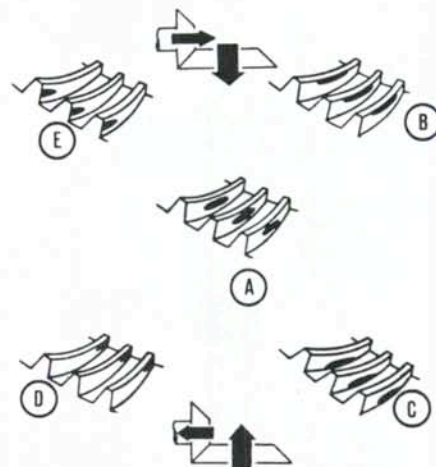

Fig. 225—Refer to text when setting ring gear and pinion gear mesh position.
141. BEVEL GEAR MESH POSITION. As a final assembly check, bevel gear mesh position can be checked as follows: Coat ring gear teeth with Prussian Blue, then turn pinion shaft while applying light resistance to ring gear. Refer to Fig. 225. Desired mesh position is shown at (A).
146. BEVEL GEAR MESH POSITION. As a final assembly check, bevel gear tooth contact pattern can be checked as follows: Apply Prussian Blue to ring gear teeth, then turn pinion shaft while applying light resistance to ring gear. Refer to Fig. 225. Desired mesh position is shown at (A).
If mesh position is not correct, check for incorrect assembly of ring gear and pinion. Arrows (Fig. 225) indicate direction to move gears to correct mesh position. Moving bevel pinion is accomplished by adding or removing shims (24—Fig. 227). Moving ring gear is accomplished by transferring shims (10L and 10R—Fig. 226) from one side to the other. Be sure mesh position and back-